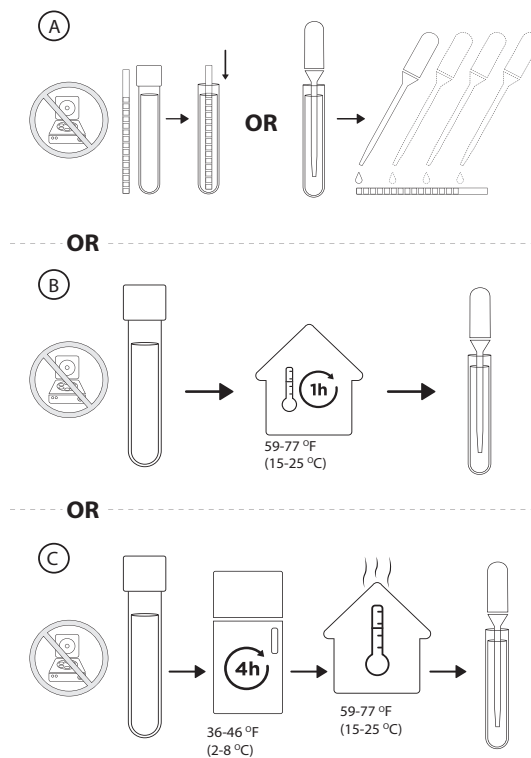

Fig. 9 Sample Handling for the UA: do not centrifuge samples. Samples may be
Analyzing fresh, well-mixed urine will yield the most accurate results.1 Do not centrifuge urine samples before use on the VETSCAN UA. Urine samples may be tested on the VETSCAN UA immediately after collection to up to one hour post collection, if stored at room temperature (59-77 °F, 15-25 °C) (Fig. 9 (A) - (B)). If they are not tested within one hour of collection, samples may be refrigerated (36-46 °F, 2-8 °C) for up to 4 hours. Cold samples must be warmed to room temperature (59-77 °F, 15-25 °C) prior to testing. (Fig. 9 (C)).